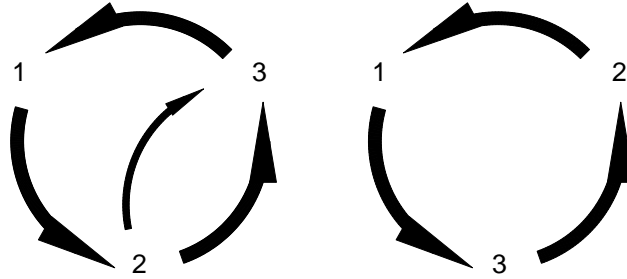

Figure 15
6. Press both cut buttons simultaneously to activate the motor and check to make sure it is turning the same direction as the arrow on the motor casing. If it isn't, disconnect the power and simply exchange any two leads of the power cord as in Figure 15. The motor will now turn the correct direction. Double check to make sure.